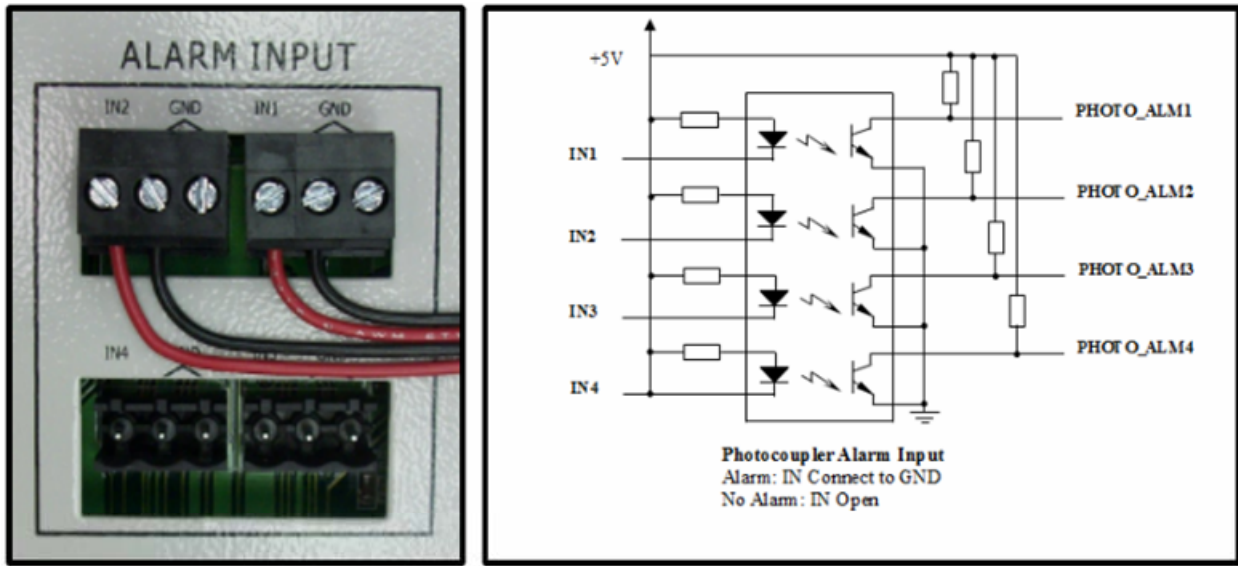
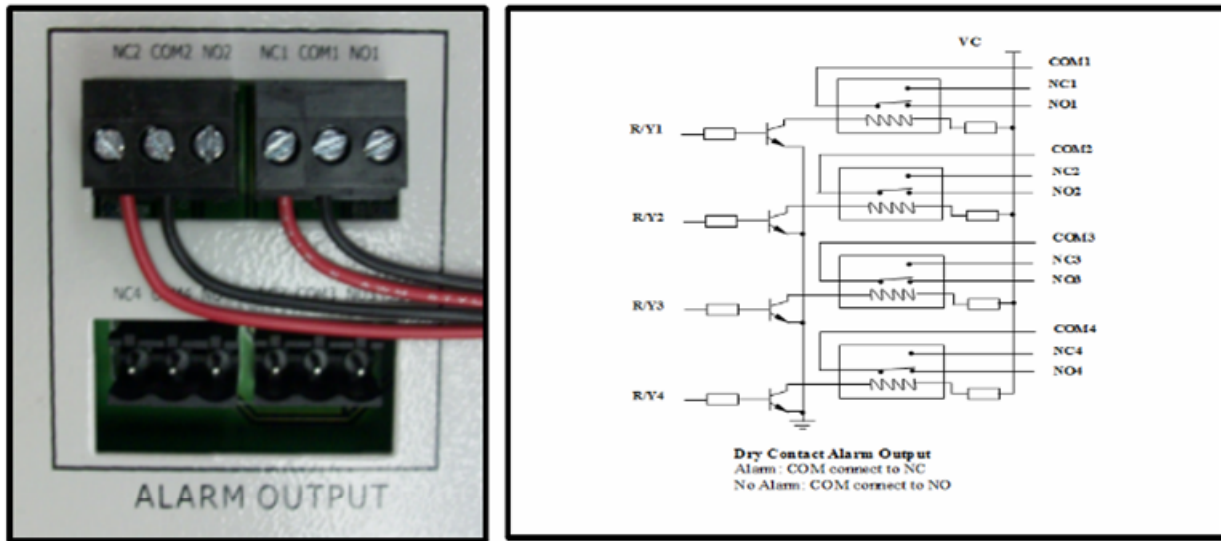

Figure 4-20. Input Alarm Installation (Alarm On)
Figure 4-21. Output Alarm Installation (Alarm On)
5. Plug all the alarm connectors into the Alarm Input interface as shown in **Figure 4-20** and **Figure 4-21**.